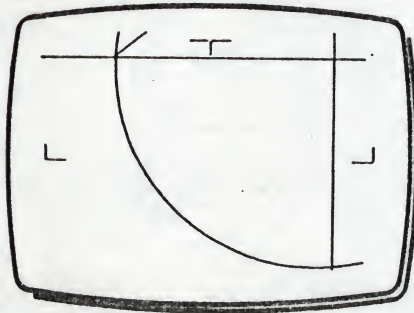

Fig 7
- 5 Move XY to move the centre of the cursor to the top centre of the screen, (6) in Fig 7.